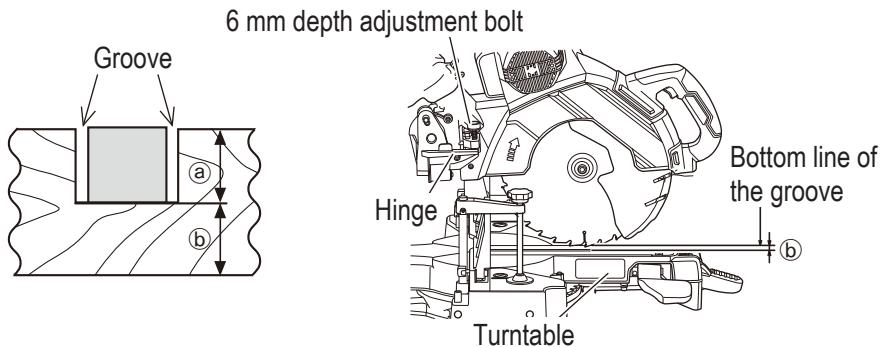

Fig. 32
Grooves in the workpiece can be cut by adjusting the 6 mm depth adjustment bolt (**Fig. 32**).
- (1) Lower the motor head, and turn the 6 mm depth adjustment bolt by hand. (Where the head of the 6 mm depth adjustment bolt contacts the hinge.)
(2) Adjust to the desired cutting depth by setting the distance between the saw blade and the surface of the base (Fig. 32).